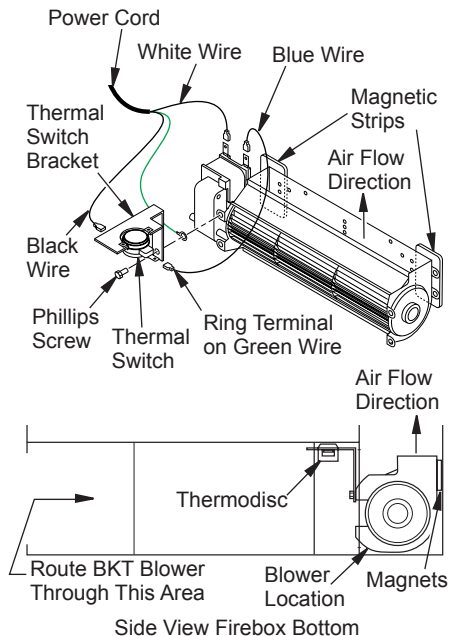

Figure 29 - Blower Model BKT
1. Place the green ground wire with ring terminal between the bottom hole on the thermal switch bracket and the top ear hole on the blower assembly. Insert the phillips screw into all three pieces and tighten securely (see Figure 29).
3. Place the blower against the lower rear wall of the firebox outer wrapper with the exhaust port directed upward and the thermdisc positioned up near the fireplace bottom. The thermdisc must be oriented near the fireplace bottom as shown in Figure 29 in order to sense temperature and properly operate. The blower will be held in position against the back wall by the magnets incorporated onto the blower housing (see Figure 29).